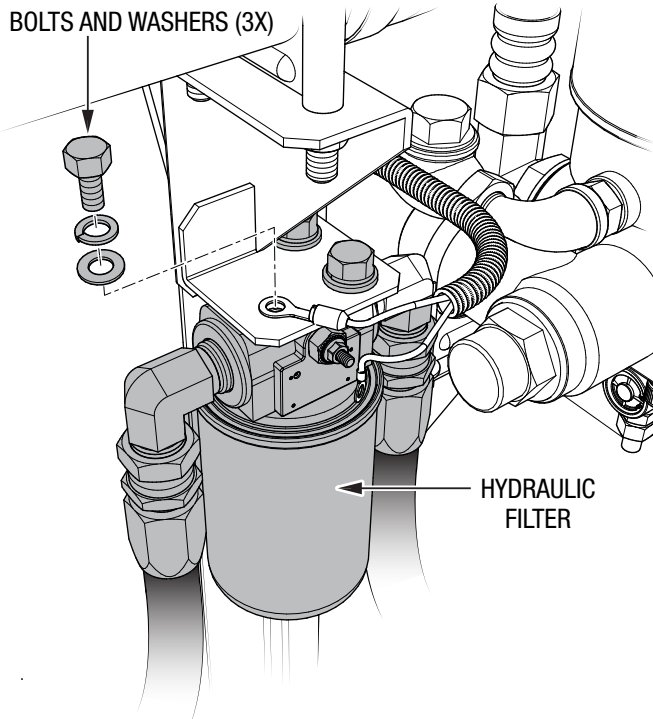

Figure 6. Hydraulic Filter Removal
2. Remove and retain the three bolts and washers securing the hydraulic filter to the frame (Figure 6). Remove the hydraulic filter and set aside.